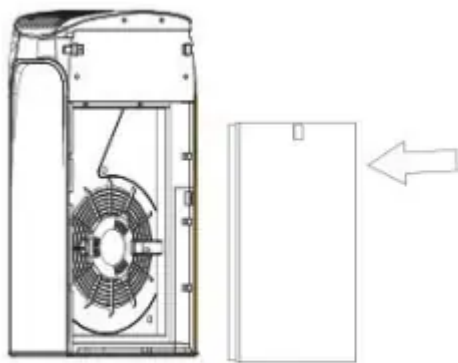

Fig 3
3. Then putting the 3-in-1 composite filter into the machine. Please note the wrong installation of filters will result in abnormal operation. (Fig 3)